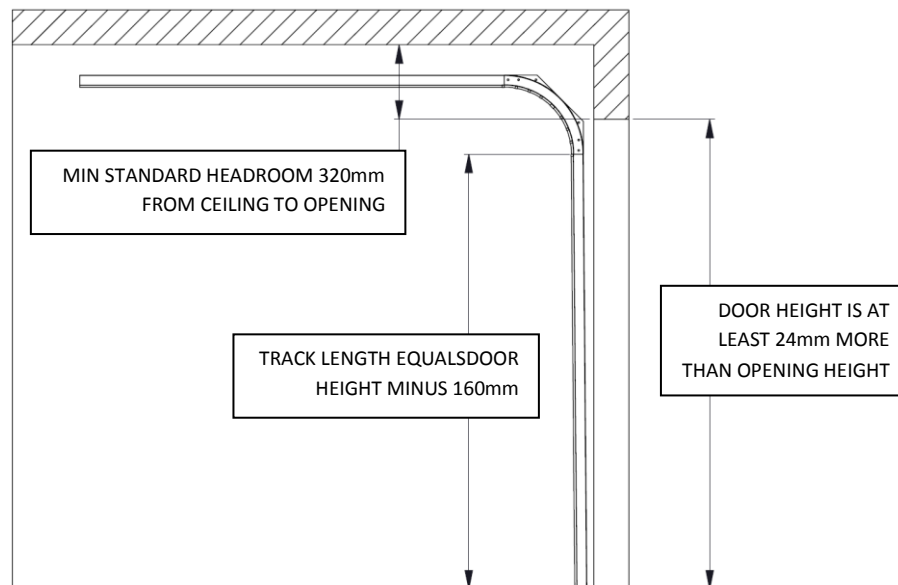

Figure 3
- b. Guides are supplied in standard sizes and may need to be cut to size. Cut vertical track at bottom to 160mm less than door height. (Figure 3)